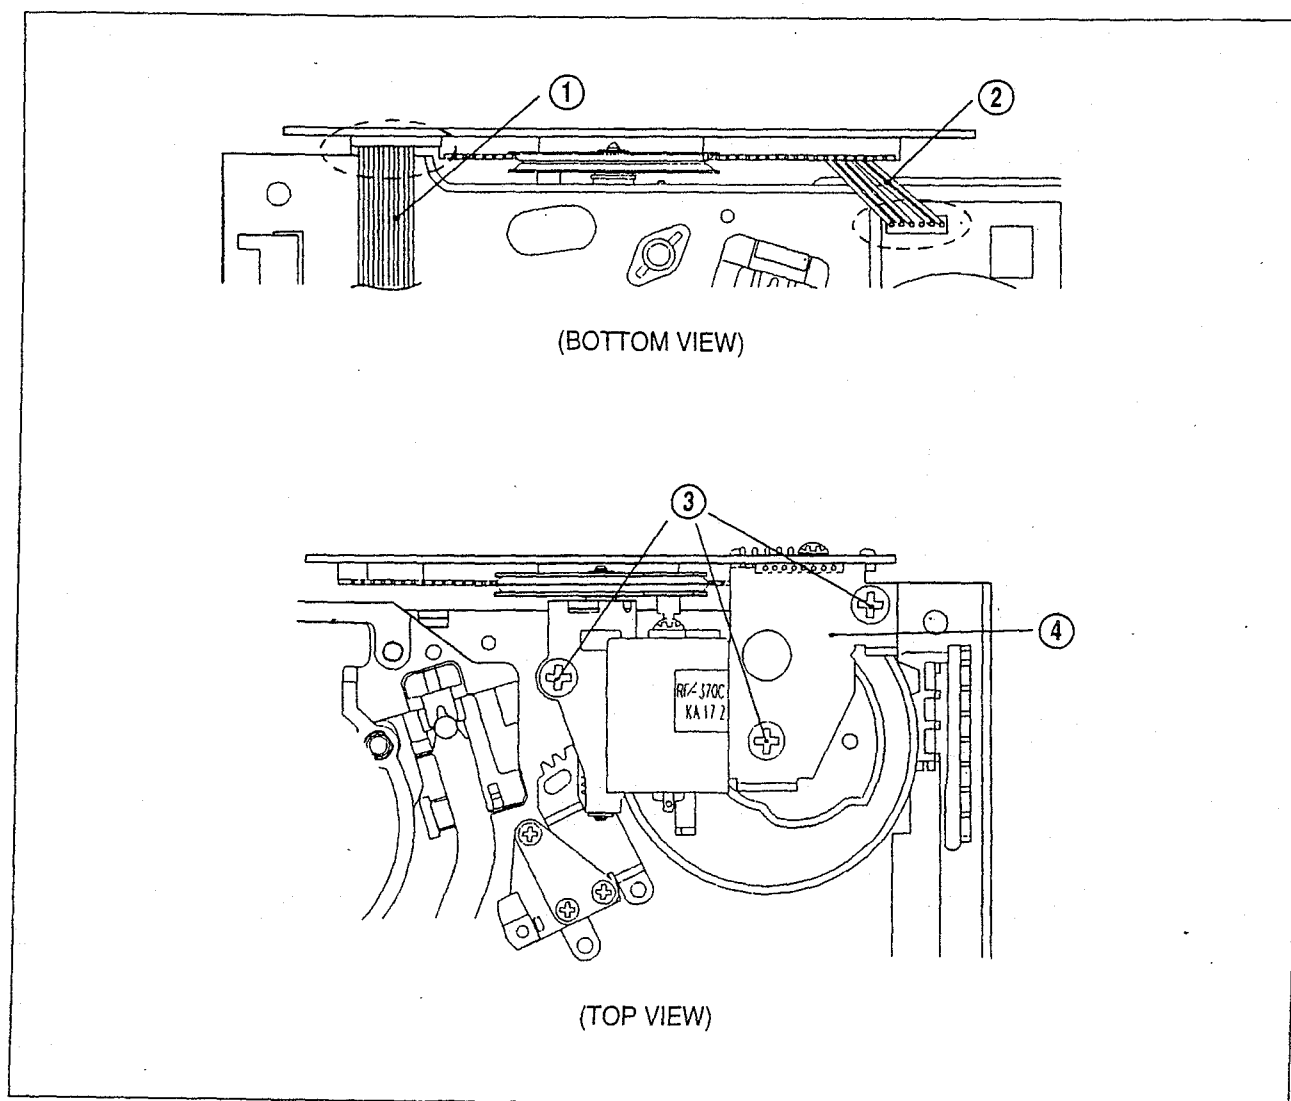

Fig. 3-5
6. REPLACEMENT OF THE L/C BRKT ASS'Y (See Fig. 3-5)